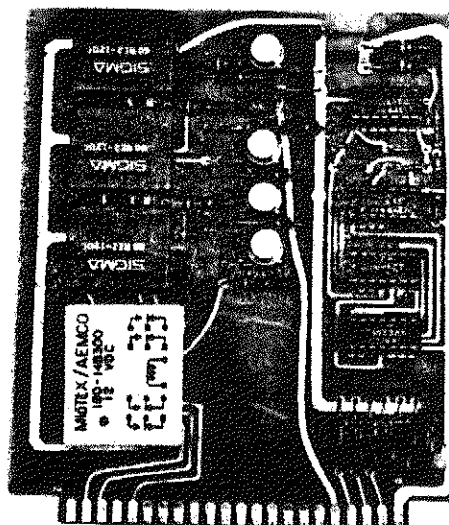

Figure 10. Relay & Logic Circuit Board (Single Console)
4. The Relay and Logic Board (Figure 10)